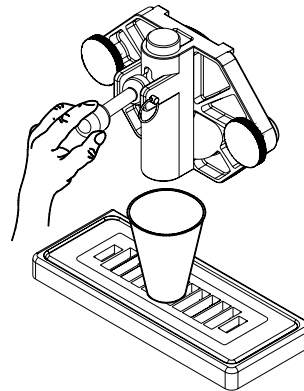

Fig. 4
2. Set the control switch to the “**OFF**” (center) position. Close the spigot handle (Fig. 4) before proceeding to cleaning.